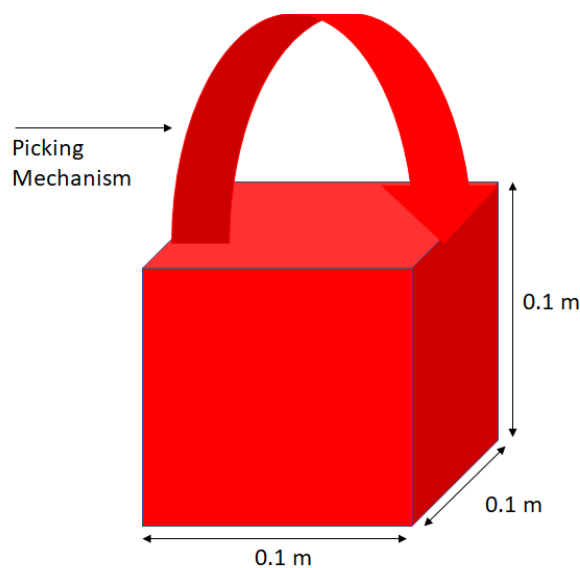

Fig 2. Image of the package to be delivered with its picking mechanism.
- Each package will have a mechanism for picking as shown in Fig. 2. Teams are also allowed to design their own attachment mechanism if they don't want to use the default one.
- Fragile package will have a picking mechanism as shown in Fig. 2. Teams are also allowed to design their own attachment mechanism if they don't want to use the default one